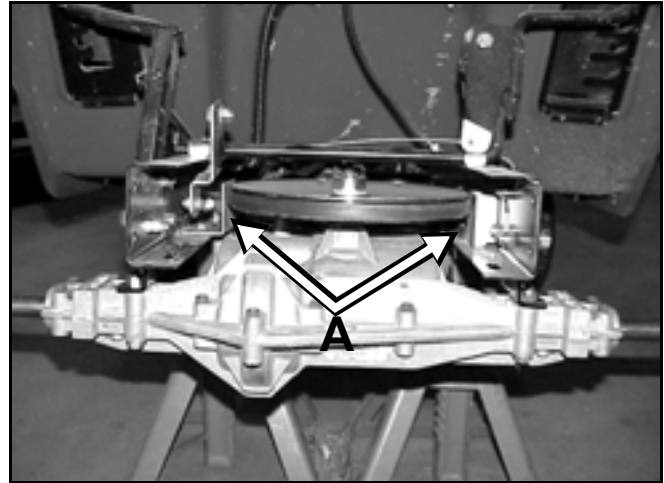

Figure 58
4. Remove the right and left belt guides located on each side of the transaxle pulley (Figure 58).